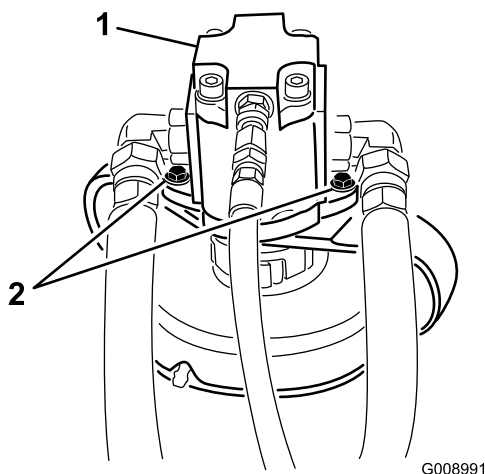

Figure 6
4. Remove the bolts securing the hydraulic motor to the cutting unit (Figure 6). Lift the motor off of the cutting unit and position it away from the cutting unit.
8. Install the hydraulic motor to cutting unit with the bolts previously removed (Figure 6).